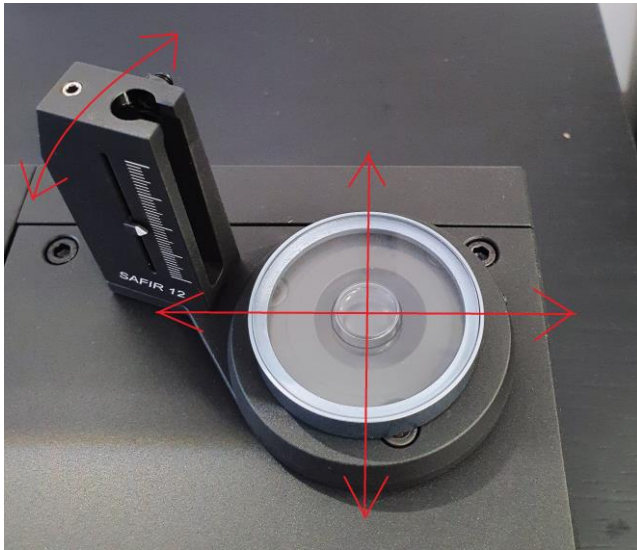

Fig. 6b. Turntable levelling on the arm base
Safir 12 has an arm base with a VTA tower. By releasing the VTA tower screw with Allen key 2 mm you can rotate it around the arm base to optimise the tube position on turntable. (Fig. 6b)
For precise horizontal levelling of the turntable to achieve accurate bias do it on arm base. (Fig. 6b) See for more details in bias section on page 11.
First ensure that the arm base is levelled horizontally in both directions, the requirement is below 0.2 deg! This is the main cause of a too strong or weak bias! (Fig. 6b)